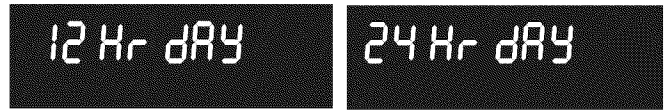

Figure 8: 12 Hr dAy (L) and 24 Hr dAy settings (R)
2. Press **Self Clean** to toggle between 12 Hr day or 24 Hr day display modes (Figure 8).